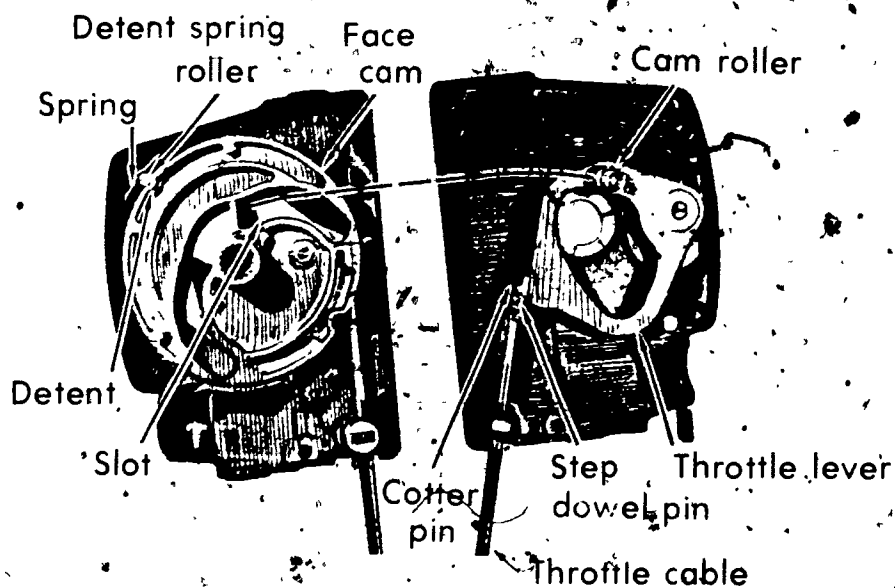

FIGURE 1
2. Separate halves (Figure 1).
3. Remove detent springs and detent spring roller (Figure 1)
7. Remove cotter pin and step dowel pin from throttle lever, (Figure 1)
8. Remove throttle cable (Figure 1)